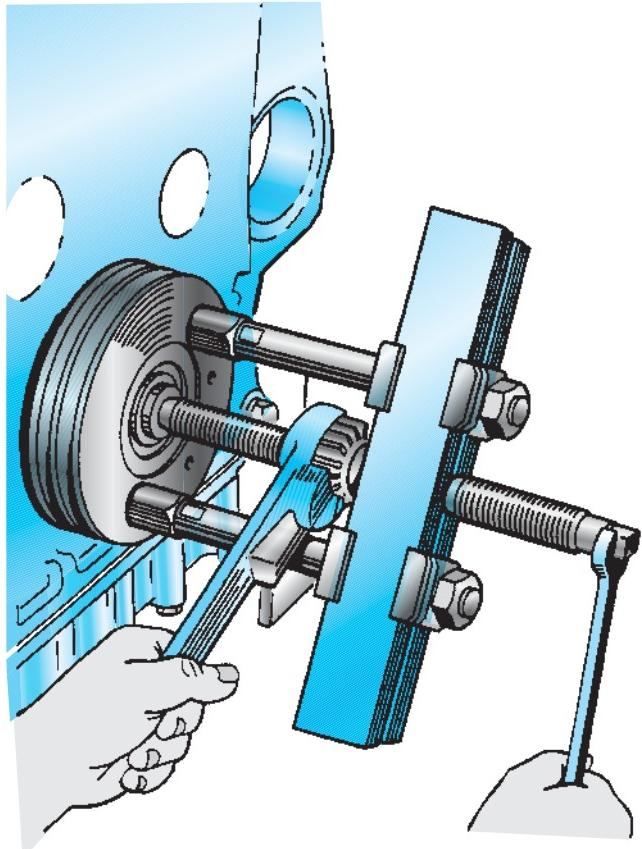

Figure 11-1 Removing a pulley using a T-puller.
4. Separate the vibration damper using great care, especially with viscous-type units. Inspect the vibration damper to assess whether it can be reused. Next, remove the crank pulley and crankshaft hub assembly. Usually this requires removing the hub retaining cap screw(s) and then using a universal T-puller (**Figure 11-1**).
11. Remove all accessory drive components not already removed, such as power steering pumps, air compressors, and so forth. Remove accessory drive pulleys using a suitable puller (**Figure 11-1**).